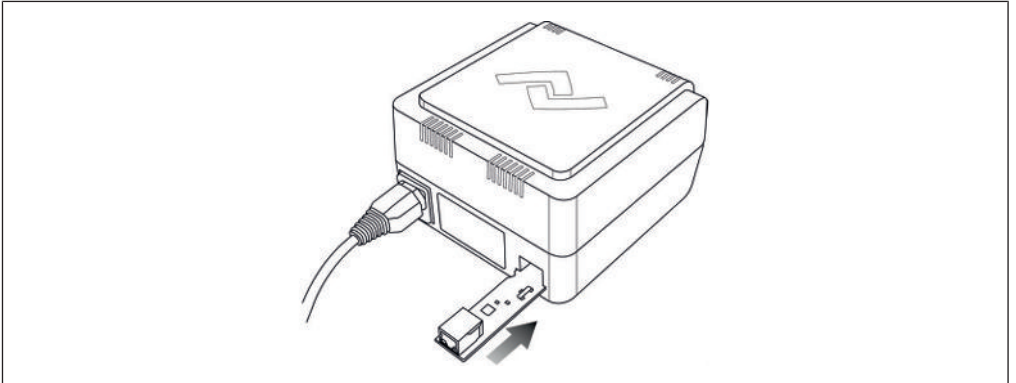

Fig. 12: Inserting the optional Ethernet network card
- c) Carefully insert the Ethernet network card all the way into the opening at the back of the soldering station (see Fig. 12).